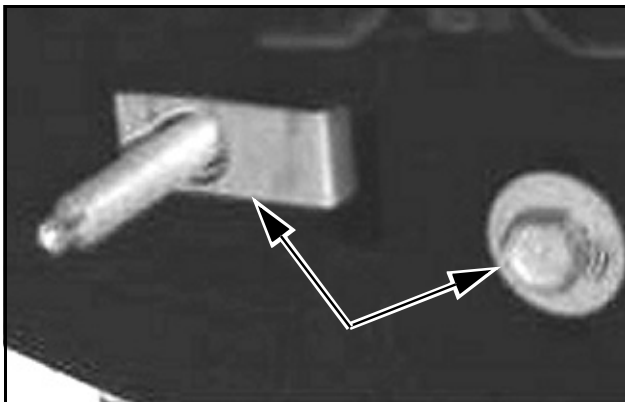

Figure 3
5. Temporarily remove the bottom intercooler bracket, by removing two fasteners (one per side). Its recommended to have the intercooler securely held in place while the bottom bracket is removed. Then remove all the hardware used in the two holes seen below. (See Figure 3)